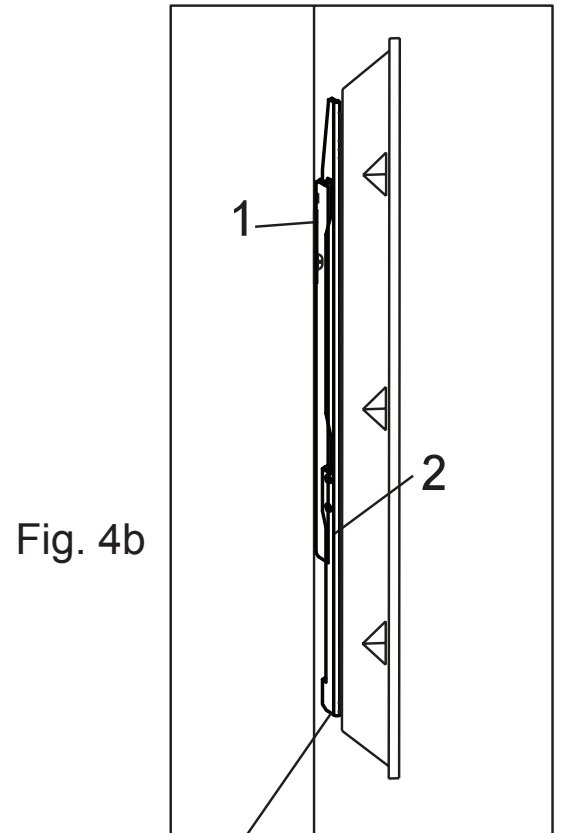

Fig. 4b
2. Hook the top of brackets (2) onto the top flange of the wall plate (Fig. 4b), then swing the screen carefully down.